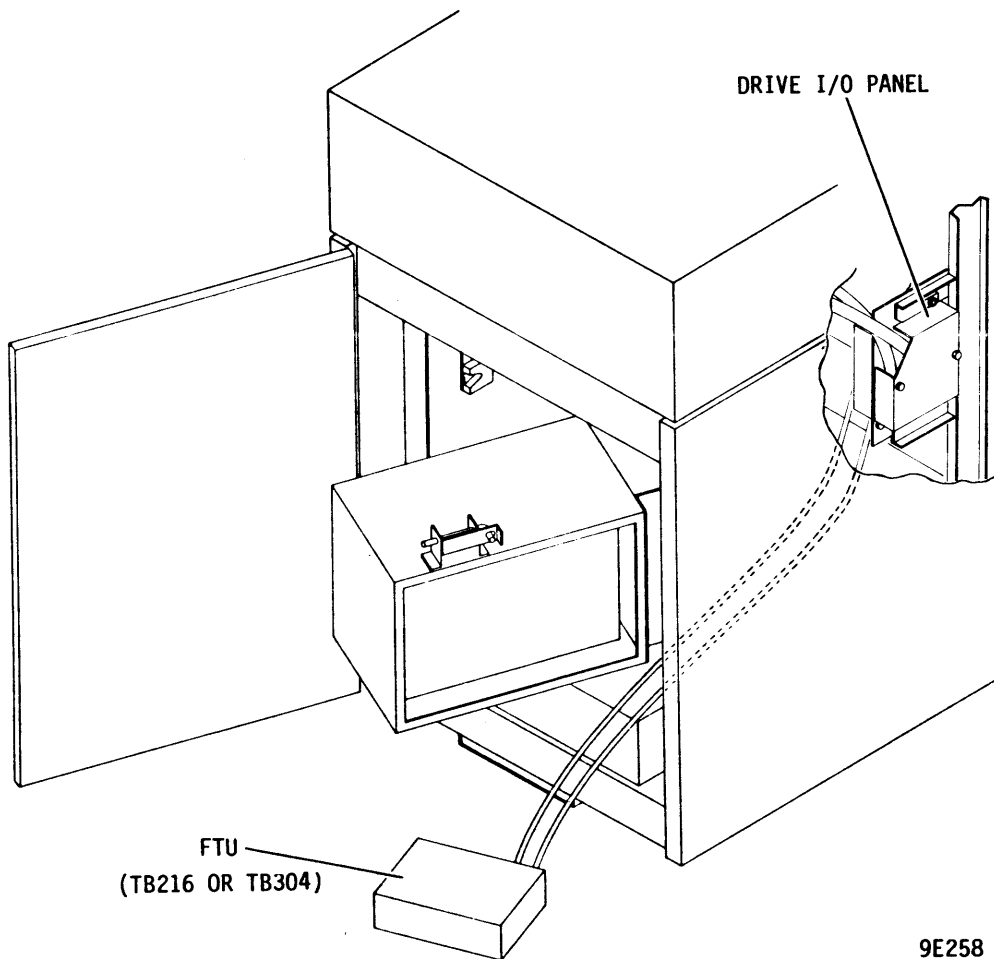

Figure 2-3. Standard I/O Connection
7. Connect FTU standard I/O cables to drive as follows (refer to figure 2-3 and 1-8):